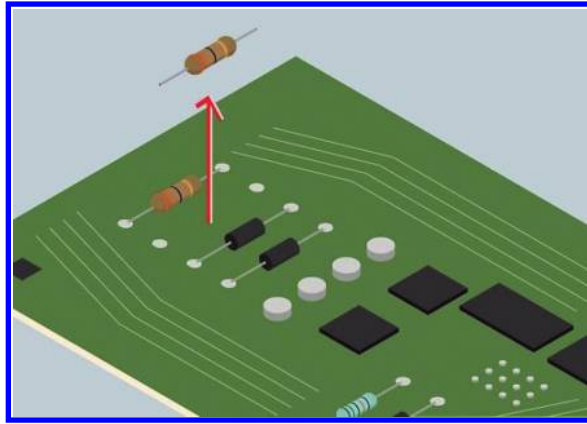
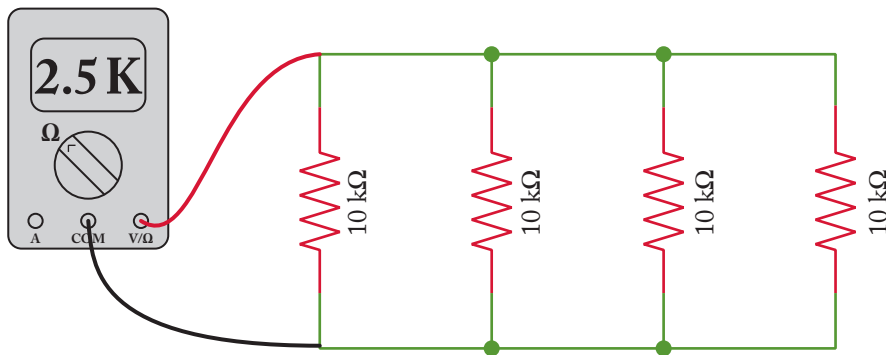

Figure 1.37: In order to have a reliable measurement, you need to isolate the part from PCB.
Figure 1.38: A simple parallel circuit.
**Note:** If you want to measure the resistance of a resistor which is connected to a Printed Circuit Board (PCB), then you need to take it out and isolate at least one of its legs (Fig. 1.37). The reason for this could be to understand with the aid of a simple circuit shown in Fig. 1.38. In this circuit, four 10 k $\Omega$  resistors are connected in parallel. When you connect the probes directly to the resistor under measurement (the left-hand side resistor), you will read 2.5 k $\Omega$ . In other words, other components in the circuit affect your measurement. When you isolate at least one